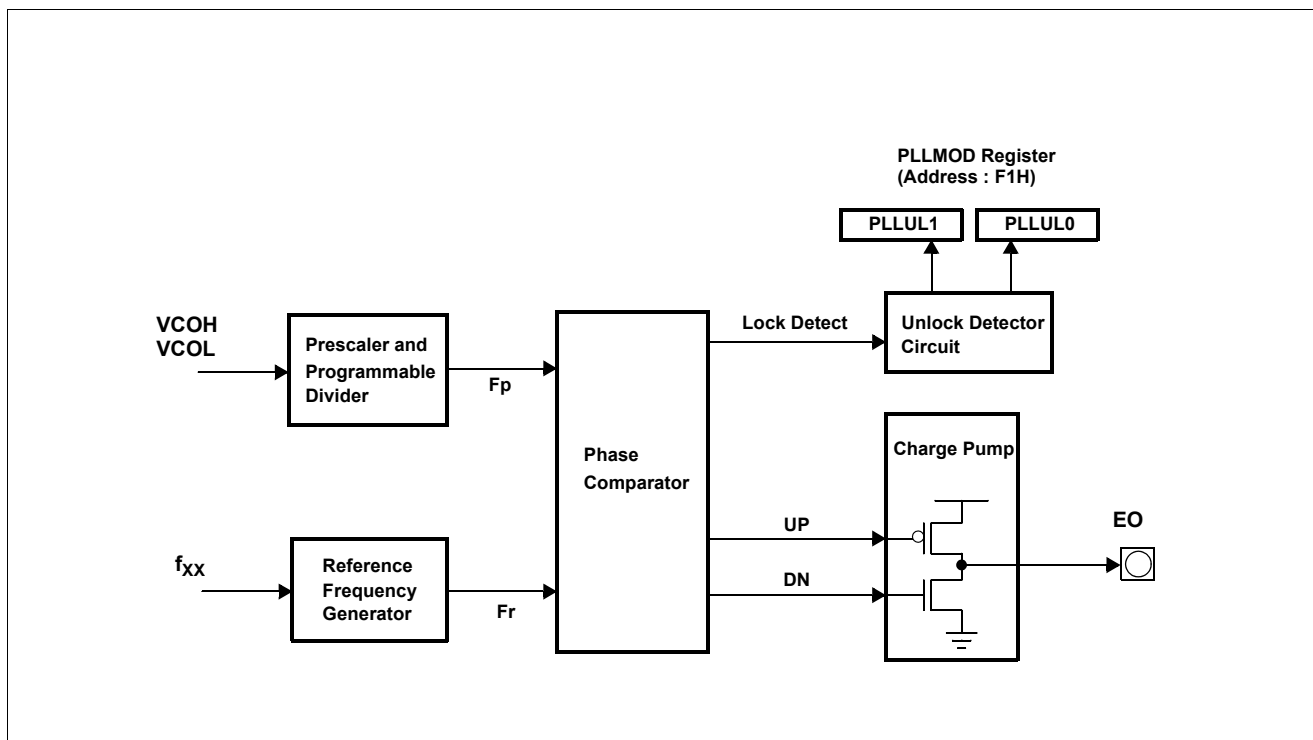

Figure 3-41 Phase Comparator, Charge Pump and Unlock Detector Circuit Configuration
Figure 3-41 shows the phase comparator, charge pump and unlock detector circuit configuration. The phase comparator compares the phase of frequency division output f_N from a programmable divider and that of reference frequency output f_r from a reference frequency generator and outputs up request (UPB) and down request (DWB) signals. The charge pump outputs the output of the phase comparator from error output pin (EO). The unlock detector circuit consisting of unlock flip-flop detects the unlock state of a PLL frequency synthesizer. .
As shown in Figure 3-41, the comparator compares the phase of frequency division output " f_N " from a programmable divider and that of reference frequency output f_r from a reference frequency generator and outputs up request (UP) and down request (DN) signal. The UP signal is activated to low if divided frequency f_N is higher than reference frequency f_r . The DN signal is activated to high if the former is lower than the latter.
As shown in Figure 3-41, the charge pump outputs the UP and DN signal from a phase comparator from error output pins.
As shown in Figure 3-41, the unlock detector circuit detects the unlock state of a PLL frequency synthesizer using the up and down request signals from a phase comparator.